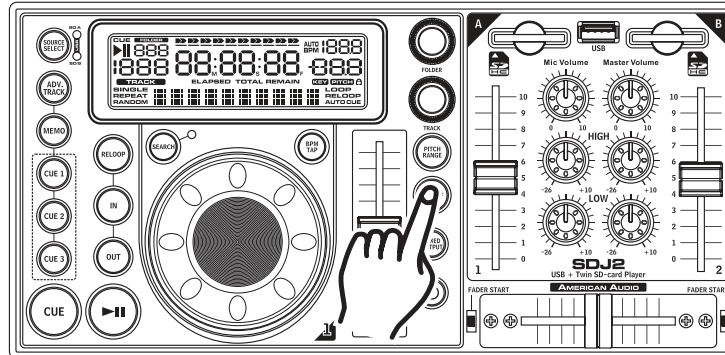

Figure 44
**Using the Pitch Slider Percentage Selector (10):** You may choose a pitch operating range at any time. To change the operating range be sure the pitch function is turned on, see figure 44. The pitch percentage can be changed between +/-4%, +/-8%, and +/-16%. 4% will allow the least amount of pitch manipulation and 16% will allow the most amount of pitch manipulation. To adjust the different values, press the **PITCH PERCENTAGE BUTTON (10)** until your desired percentage is reached.